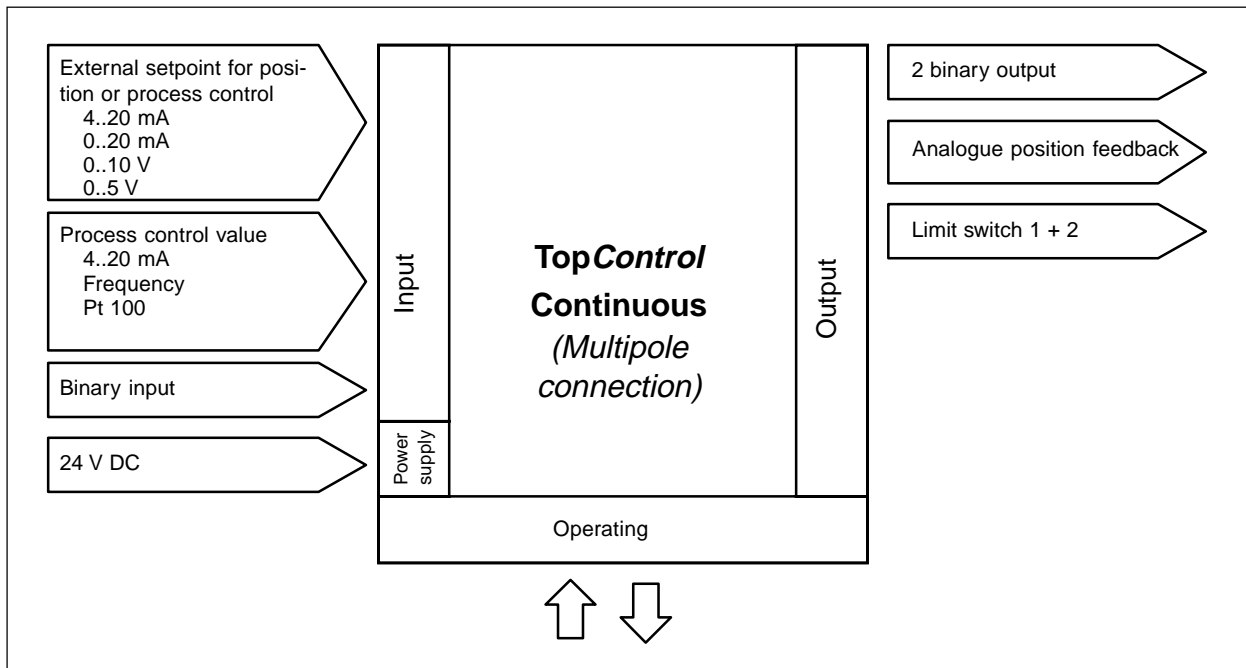

Fig. 3.8: Position interface with multipole connections
- Multipole connection with complete functions (Fig. 3.8)